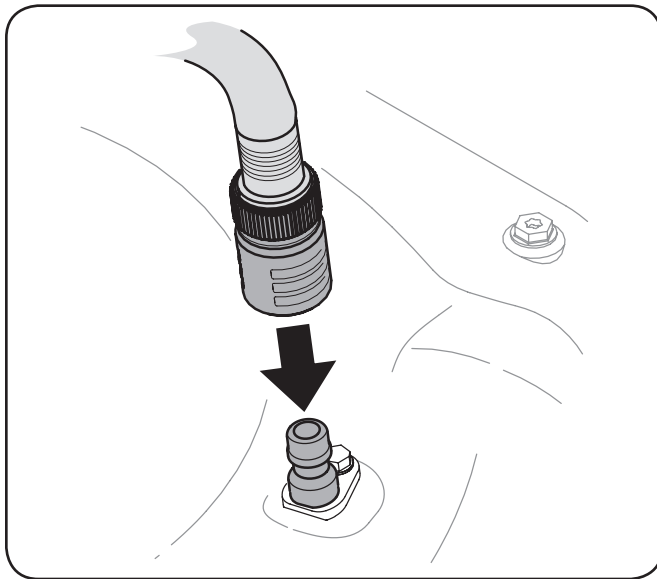

Figure 6-2
3. Attach the hose coupler to the water port on your deck's surface. See Figure 6-2.